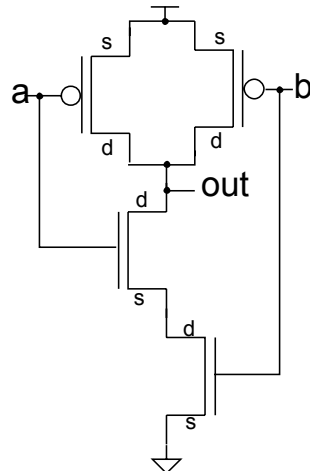
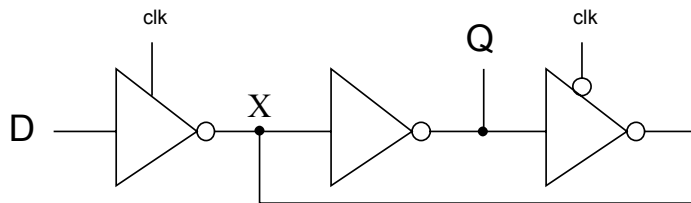

Figure 1: NAND gate – transistor-level.
Figure 2: D-type Transparent Latch.
The first part of the lab exercise uses the standard nand gate configuration using 2 nFETS and 2 pFETS (figure 1). The second part uses a data latch circuit similar to the one presented in class. It is modified somewhat to eliminate the “transmission gates”, since these are not possible to implement with transistors with built-in body to the source connections. For transmission gate implementation we would need to connect the body to ground in the nFETs and to Vdd in the pFETs. This latch (figure 2) uses two tri-state inverters and a normal inverter. The tri-state inverter used here is the functional equivalent to an inverter followed by a transmission gate.
1. Wire it up. Using the standard 4 transistor nand-gate circuit discussed in class (figure 1) as a model and your planned layout from the prelab, wire up a two-input nand-gate with the discrete transistors on your protoboard.